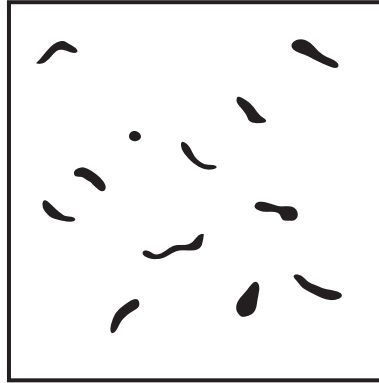

Fig. 3.1
- (v) The detector is then removed, washed and dried. It is then mounted on a microscope slide and viewed using a magnification of 100. A typical result for part of the slide is shown in Fig. 3.1.
Measure Fig. 3.1 and calculate the actual distance of its side.